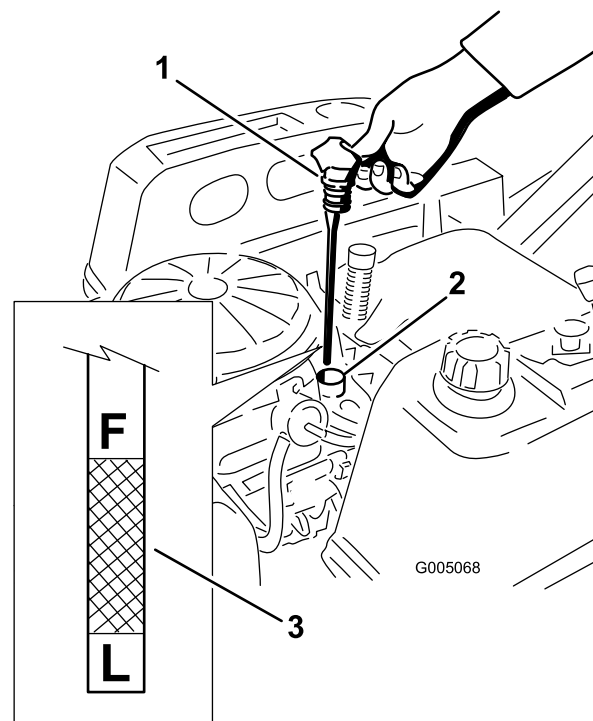

Figure 27
5. Remove the dipstick and check the oil level. (Figure 27).
4. Pull and remove the oil fill cap/dipstick; wipe oil off. Reinsert the dipstick and push firmly into place (Figure 27).
8. Turn the drain valve 1/4 counter clockwise to open and allow the oil to drain (Figure 29). Remove the oil fill cap/dipstick (Figure 27).
15. Slowly pour approximately 80% of the specified oil into the filler tube (Figure 27).
16. Install the oil fill cap/dipstick and push firmly into place (Figure 27).
17. Check the oil level (Figure 27); refer to Checking the Oil Level.
19. Install the oil fill cap/dipstick and push firmly into place (Figure 27).